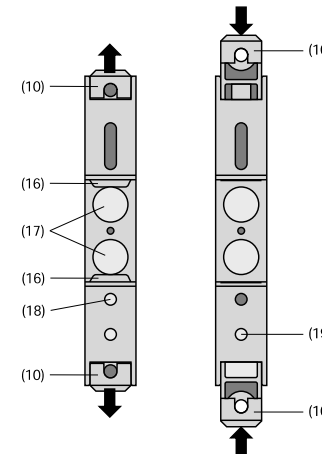

Fig. 8. Rear of device.
While pressing the latch (18) in the base of the device (Fig. 8, left), pull out the transmitter securing brackets (10).
To return the brackets to their original positions, the latch (19) in the base of the device has to be depressed before applying pressure to the securing brackets (10) (see Fig. 8, right).